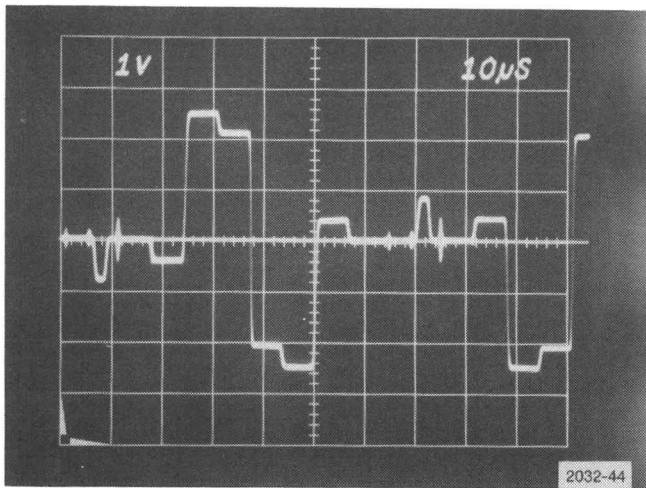

Fig. 5-3. Typical waveform at TP1919.
b. CHECK—that the demodulated R-Y (V) chrominance is free from rolloff, peaking, and ringing. See Fig. 5-3.